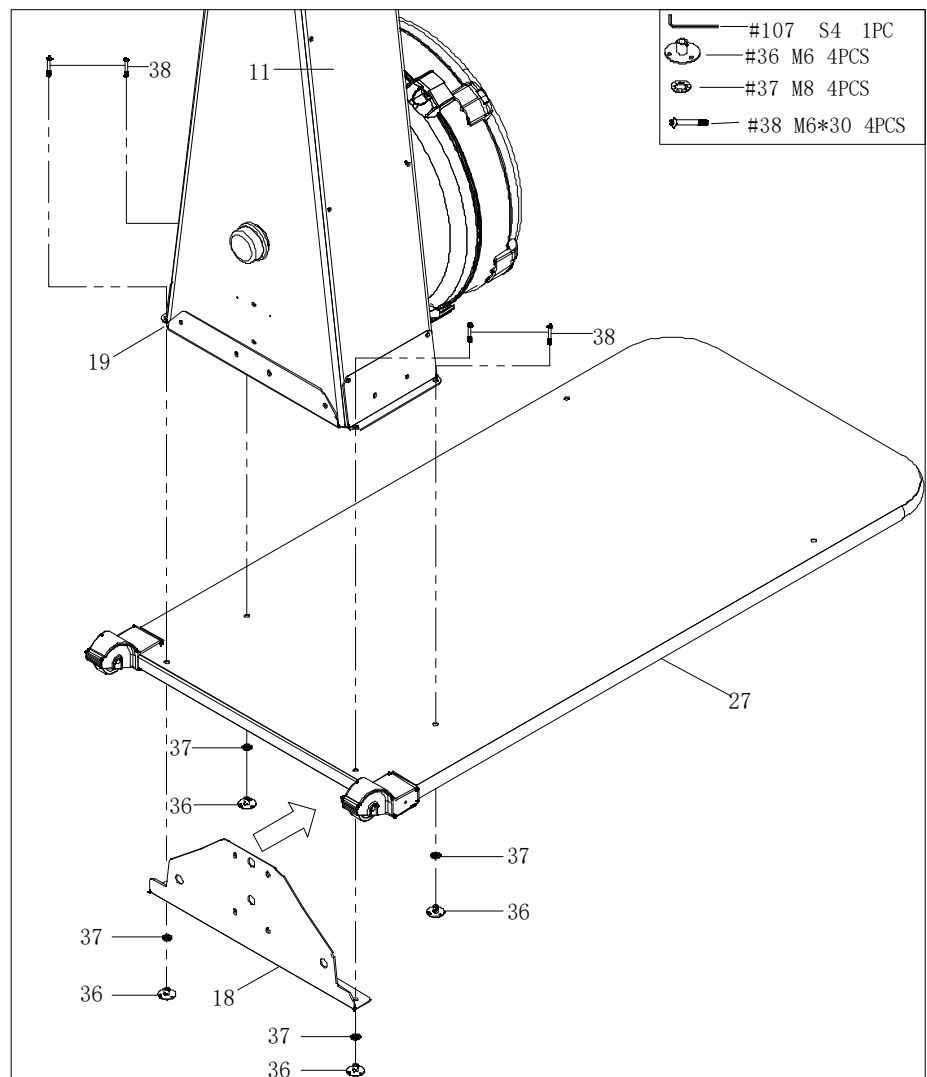

Fig. 8
2. Remove the four bolts (38) from the bottom plate (27).
3. Fix the bottom plate (27) and the strengthening plate (18) to the main frame (11) with four bolts (38), four lock washers (37), and four lock nuts (36) (Fig. 8).
① NOTICE